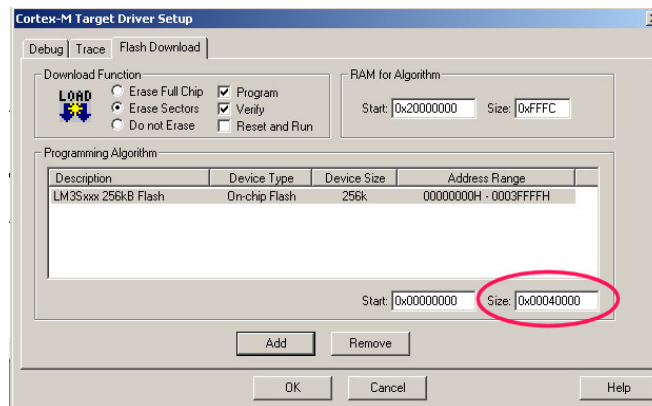

Figure 17
- 4) Configure the FLASH programmer. (Figure 17)
- 10) Select the Flash Download tab. Figure 17 opens up.